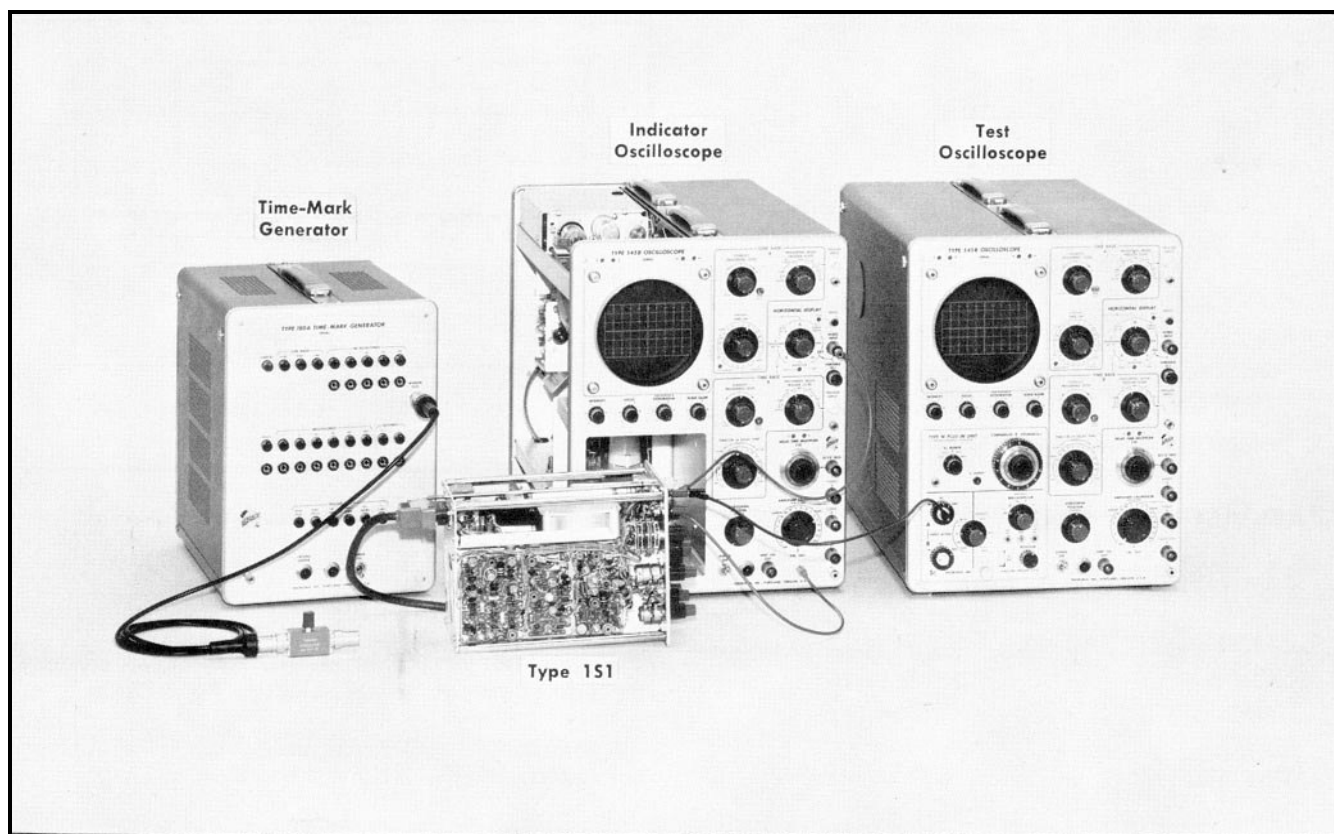

Fig. 5-14. Initial test equipment setup for steps B through 10.
- Test equipment setup is shown in Fig. 5-14.
- Connect a BNC/banana patch cord from the Type 1S1 HORIZ OUTPUT jack to the test oscilloscope vertical input connector. The patch cord from the HORIZ OUTPUT jack to the indicator oscilloscope Ext Horiz Input jack should remain in place (see Fig. 5-14).